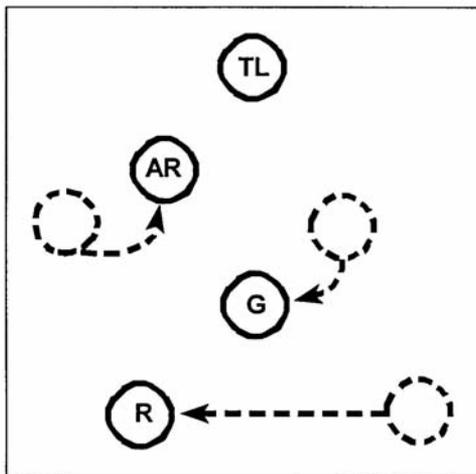

Figure 071-326-0501-2. Fire team modified wedge
c. Fire team diamond (figure 071-326-0501-3). This formation is a variation of the wedge. It is most often used when the fire team is operating alone or is the lead security element (point) for a column or file. The fire team diamond has the same characteristics as a wedge except that it—
(1) Has reduced frontage.
(2) Allows increased security to the rear.
(3) Allows immediate fires in all directions, although one Soldier's fires are always masked.